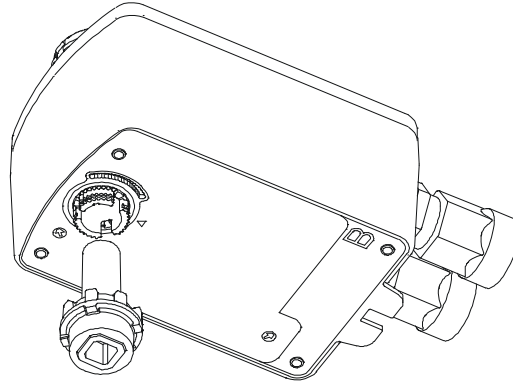

Figure 9: Inserting the Drive Shaft
3. Insert the drive shaft into Side B (Figure 9). The drive shaft is keyed for one-way assembly. With gentle pressure applied, rotate the drive shaft until the key aligns and the drive shaft falls into place.